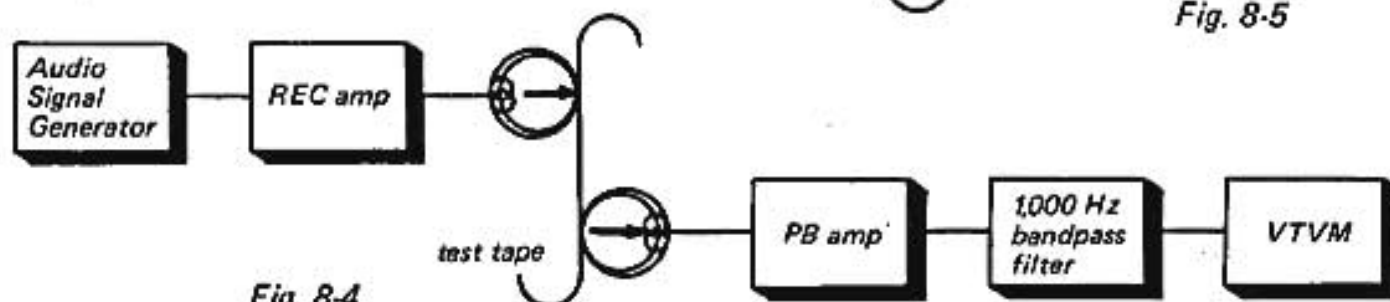

Fig. 8-4
- 2) Make connections of both channel outputs to the bandpass filter as shown in Fig. 8-4. Channel separation can be obtained from the ratio of the playback output voltages between both channels from a VTVM.